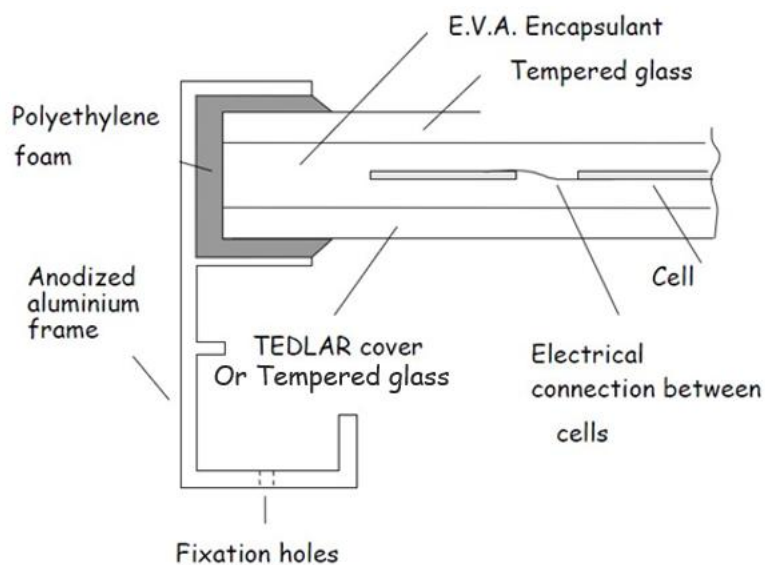

Figure 7
6. Figure 7 shows a schematic diagram of a cross-section of a photovoltaic module.